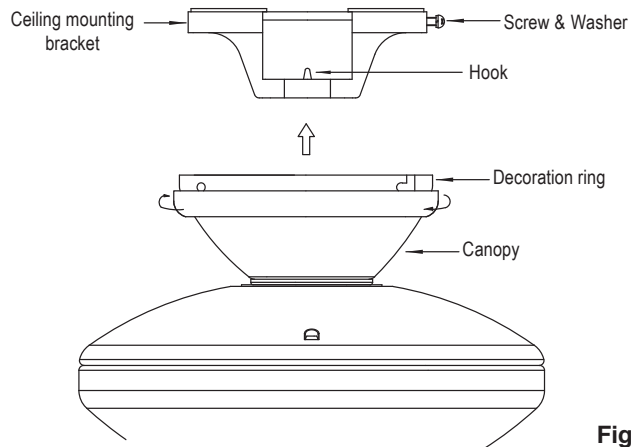

Fig. 13
**Step 3.** Make sure all four mounting screws are tight. (Fig. 13)